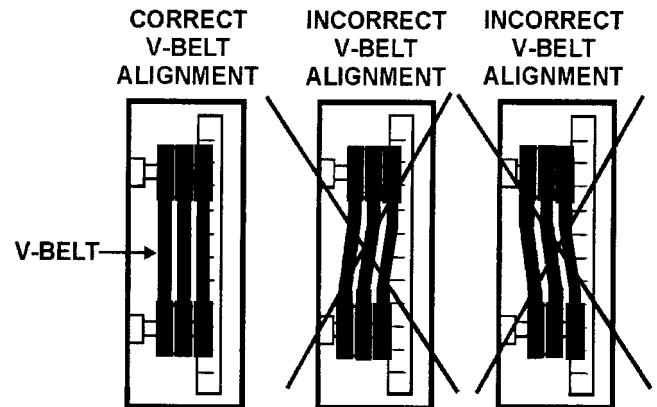

Figure 5. Pulley Alignment
2. Check uniform parallelism (Figure 5) of V-belt and pulley (sheaves). Use a straight-edge or machinist's square against both pulleys and adjust both pulleys until equally aligned.